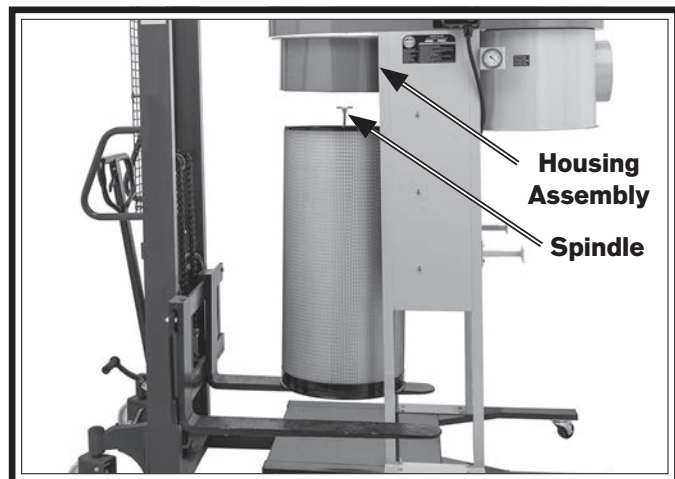
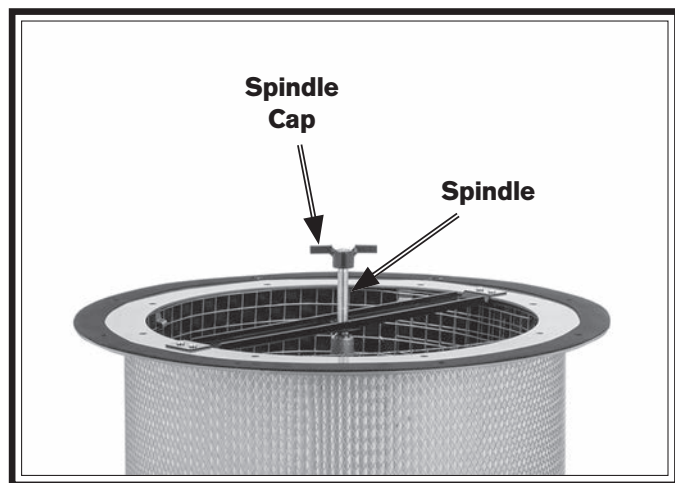

Figure 22. Canister filter in position for mounting.
Figure 23. Spindle cap.
16. Support canister filter with forklift or jack and position it under housing assembly (see **Figure 22**). Rotate filter so that mounting holes align, then rotate spindle so spindle cap is aligned with motor shaft (see **Figure 23**).